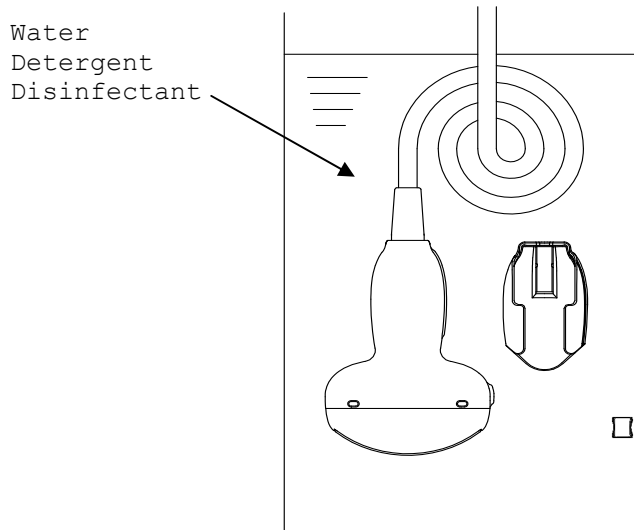

Fig.13 Immersion of the probe, the Magnetic sensor attachment and the Spacer for EZU-RV2S
- 2) Immerse the immersible part of the probe without connector into the diluted detergent solution (see Fig.13). Wipe the immersible part of the probe under the surface of the detergent solution with a soft cloth
- 5) Rinse the immersible part of the probe with running tap water for 1 minute. (alternatively: immerse the immersible part of the probe in a tray filled with deionized water/tap water (see Fig.13) for 5 min.)
- 4) Rinse the magnetic sensor attachment and the spacer for EZU-RV2S with running tap water for 1 minute. (alternatively: immerse it in a tray filled with deionized water/tap water (see Fig.13) for 5 min.)
- 3) Immerse the immersible part of the probe into the disinfectant (see Fig. 13). Set a clock to insure the recommended contact time which is 5 minutes.
- 4) Rinse the immersible part of the probe with deionized water for 1 minute. (alternatively: immerse the immersible part of the probe in a tray filled with deionized water (see Fig.13) for 5 min.)
- 2) Immerse the magnetic sensor attachment and spacer for EZU-RV2S into the disinfectant (see Fig. 13). Set a clock to insure the recommended contact time which is 5 minutes.
- 3) Rinse the magnetic sensor attachment and spacer for EZU-RV2S with deionized water for 1 minute. (alternatively: immerse it in a tray filled with deionized water (see Fig.13) for 5 min.)